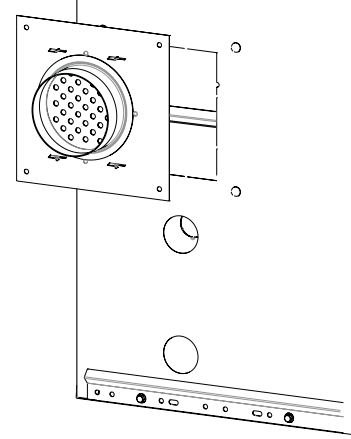
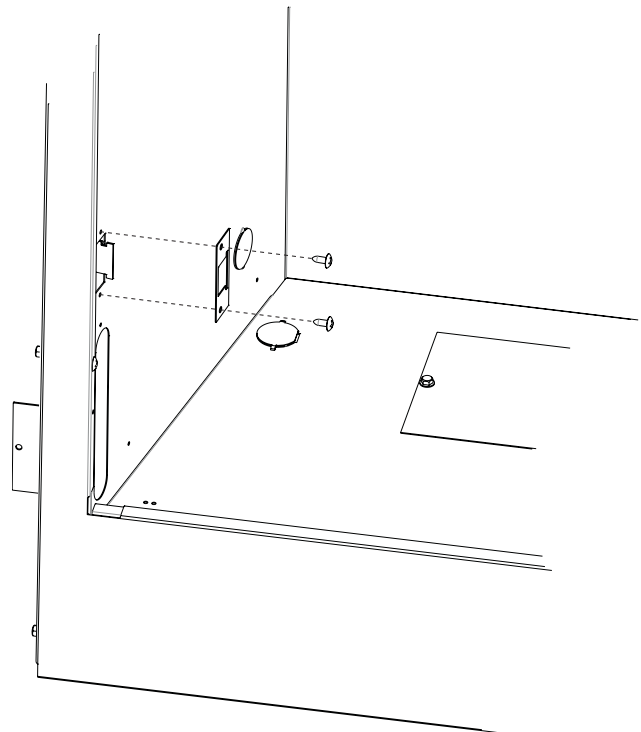

Figure 15
Figure 16
3. Insert Slide Assembly through the cut-out as shown in Figure 15. Before you fasten ensure that the handle penetrates the inner firebox wall. See Figure 16. Fasten the Slide Assembly with the four 10 x 1/2 Hex Head Screws provided.
4. Fasten the Handle Retainer to the firebox side with two 10 x 1/2 Phillips Truss Head Screws as shown in Figure 16.